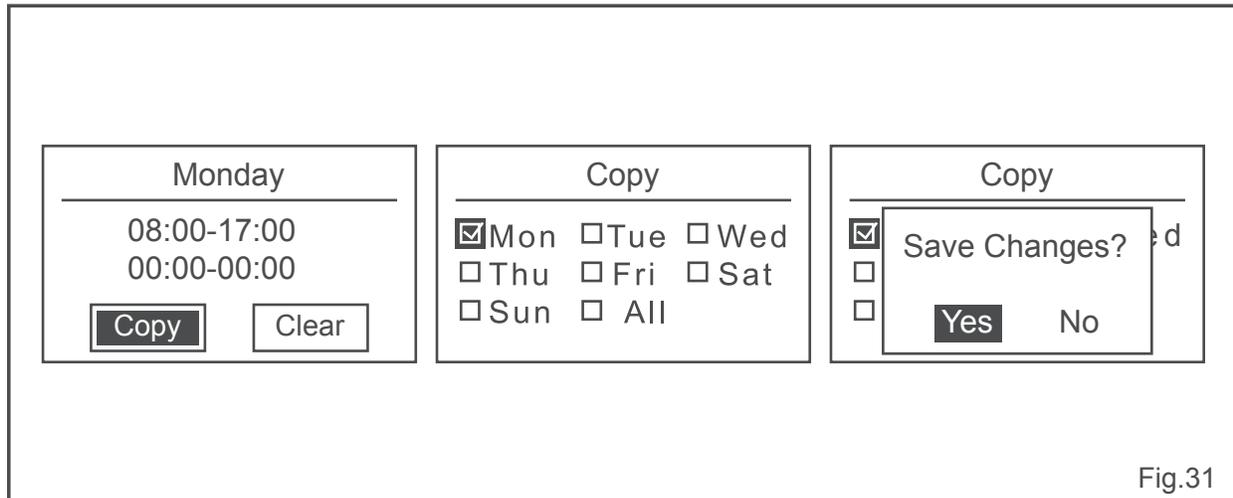

Fig.31
- Turn the Dial to select Copy, and then press the Dial to enter the Copy page (Fig. 31).
- Press the back button, select Yes and press the Dial to confirm changes (Fig. 31).